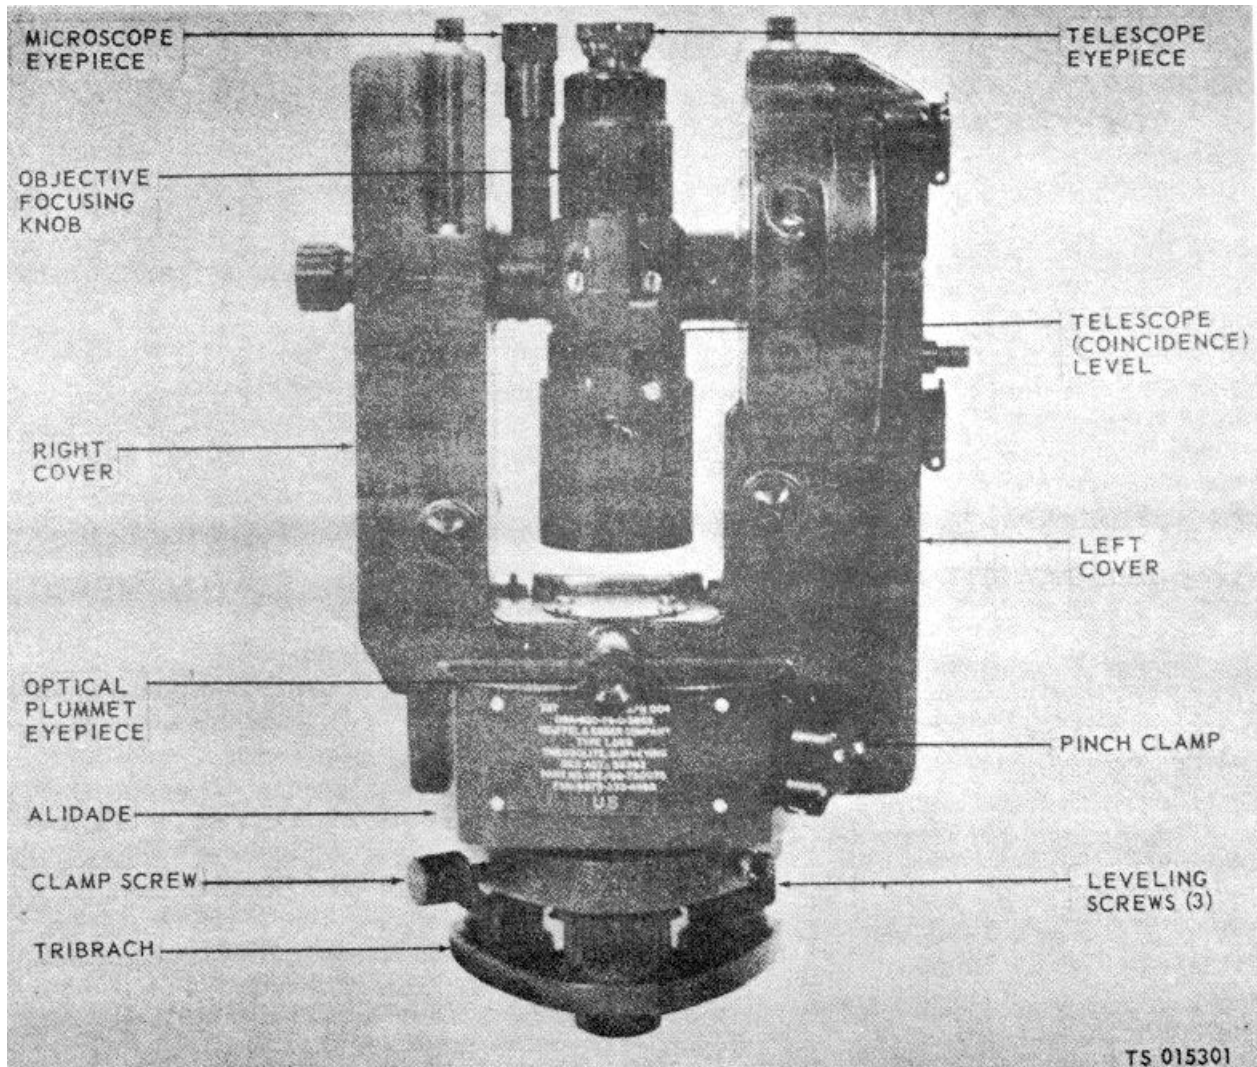

Figure 1-1. Theodolite front view,
a. Theodolite. The Theodolite (figs. 1-1 thru
3) is a precision, directional type surveying instrument. It has both vertical (elevation) and horizontal (azimuth) circle scales, calibrated in degrees reading the value of angles. Such readings are observed through the microscope eyepiece (fig. 1-1). A microscope pattern provides for interpolation of angle value readings to 1minute resolution. A detachable tribrach (fig. 1-1) containing three leveling screws, a circular level, and base plate serves as the mount for the theodolite base. The tribrach base plate has a threaded center to accommodate the locking screw for securing the theodolite on the tripod head.